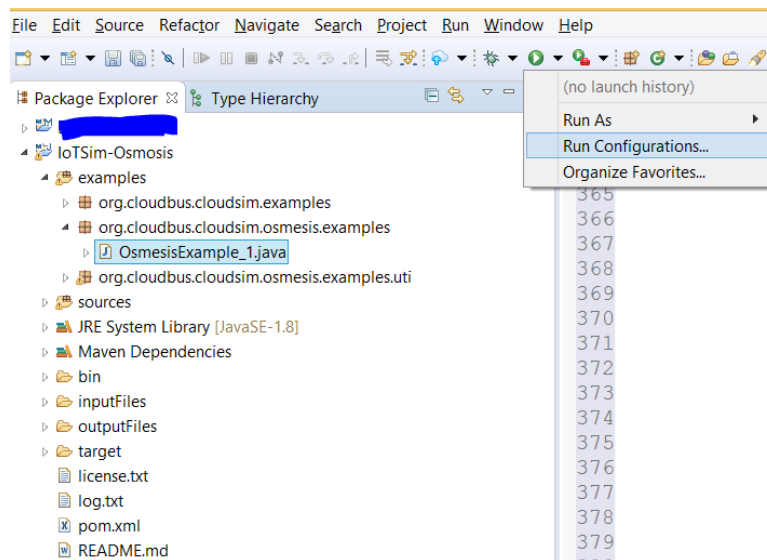

Figure 4.4
Step 1: Select OsmosisExample_1.java -> click on the small down arrow next to the play button and select Run Configurations (see Figure 4.4).